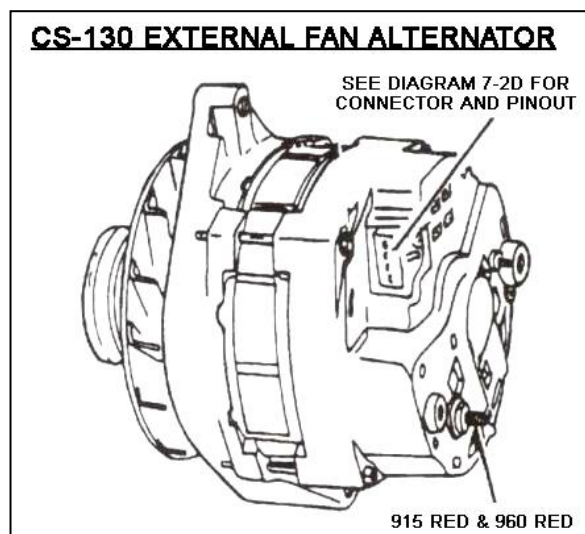

Figure 7-2B CS-130 External Fan Alternator
- 7.2.4** Connect ENGINE SECTION wire #915 (red) to the Alternator Output lug (Bat). Insulate and stow ENGINE SECTION wire #914 (wht). Do not install jumper wire. No wires are connected to Alternator terminals 1 & 2. If alternator output is greater than 65 amps refer to Figure 7-2B and the caution on page 6.